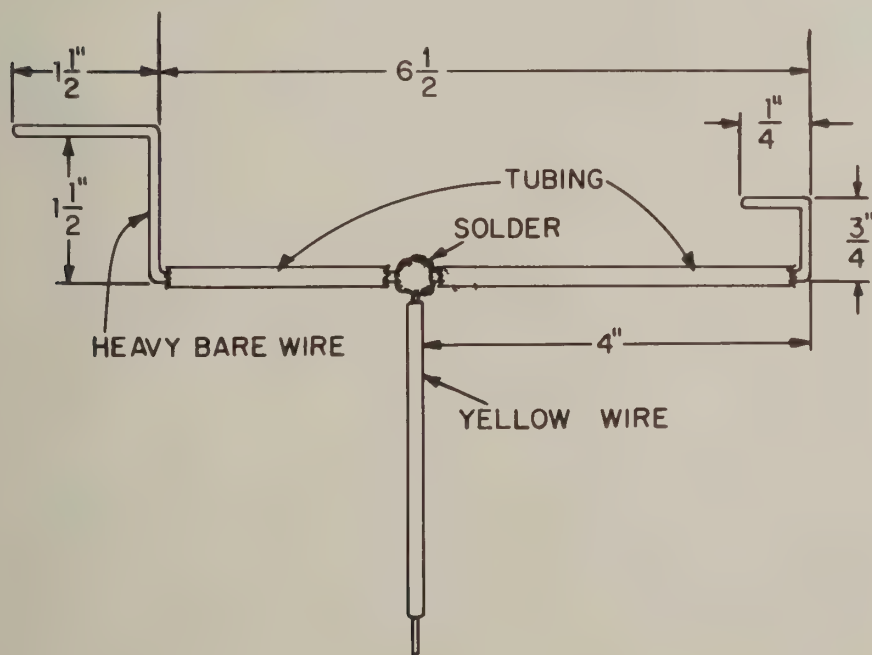

FIGURE 24. BUSBAR ASSEMBLY
- ☐ Cut an 11" piece of the large bare wire and two pieces of the large tubing; one 2" and one 4". Slide the two pieces over the large bare wire. Form the wire as shown in Figure 24. Solder a yellow wire to the bare wire as shown.